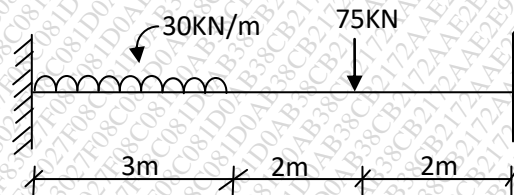

Figure 3
- Q.3 Analyze the beam as shown in figure 3 and draw BMD.